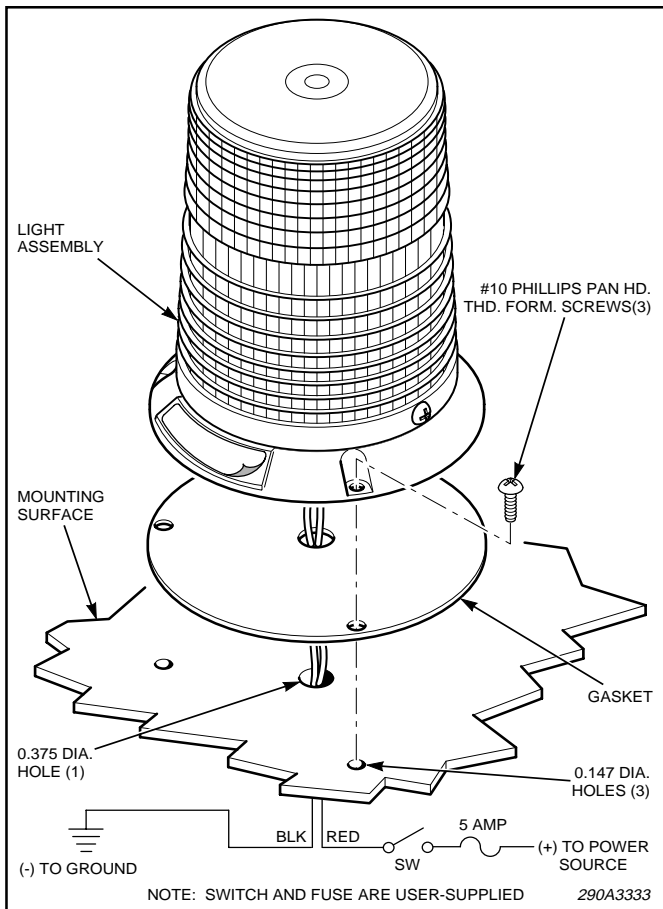

Figure 1.
c. Align the gasket over the four previously drilled holes. Route the red and black wires through the gasket and wire routing hole as shown in figure 1.
d. Secure the base to the mounting surface with the #10 pan head phillips thread-forming screws (see figure 1).